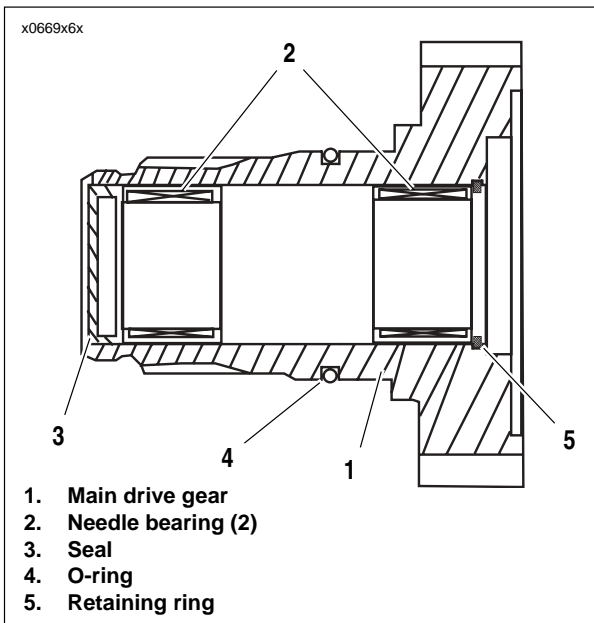

Figure 6-67. Main Drive Gear Assembly
3. See Figure 6-67. From inside case tap out seal (3) at end of mainshaft 5th gear. Discard seal.
1. See Figure 6-67. Remove and discard retaining ring (5).
2. Drive out needle bearings (2) from inside bore of main drive gear (1) using appropriate bearing and bushing puller. Discard bearings. Do not reuse bearings after removal.